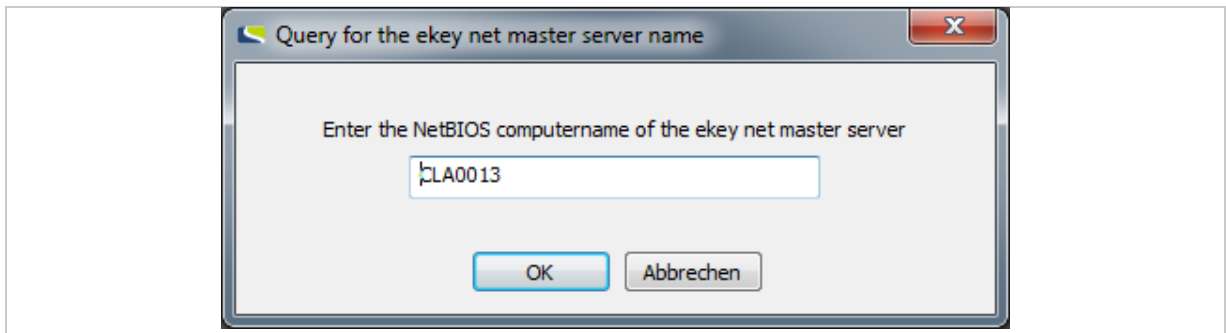

Fig. 11: **QUERY FOR THE EKEY NET MASTER SERVER NAME**
8.	If a dialog querying the name of the ekey net master server appears, enter the NetBIOS computer name for the ekey net master server that you wish to connect to the ekey net terminal server (see "Fig. 11: QUERY FOR THE EKEY NET MASTER SERVER NAME ", page 21).